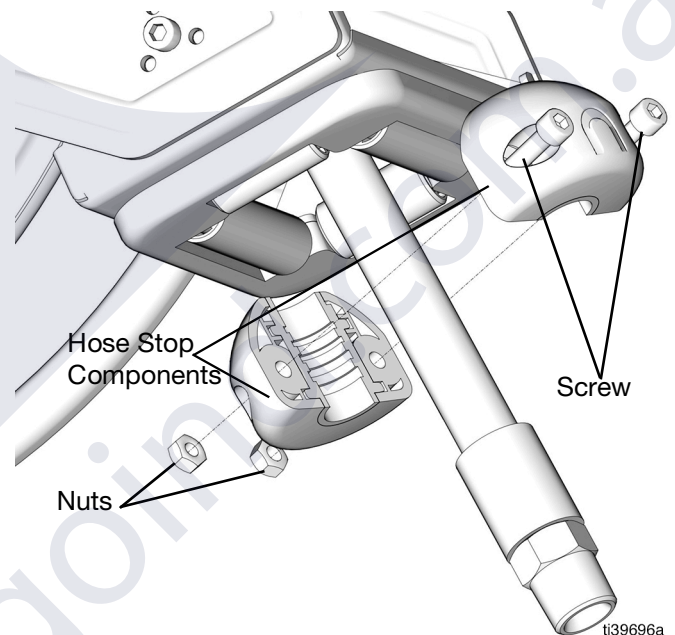

FIG. 13
4. Remove the hose stop from the hose end and put all of the parts in a secure place for re-installation on the new hose (FIG. 13).
- a. Loosen and remove screws and nuts (FIG. 13).
- b. Separate the two hose stop components to remove from the end of the hose (FIG. 13).
- Insert screws through the hose stop and hand tighten the nuts to hold the hose stop in place (FIG. 13).